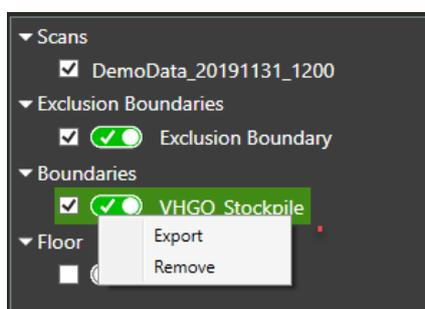

Figure 65. Boundary Export / Remove dialog.
2. *Right-Click* -> boundary name. This will open a secondary options dialog (Figure 65).